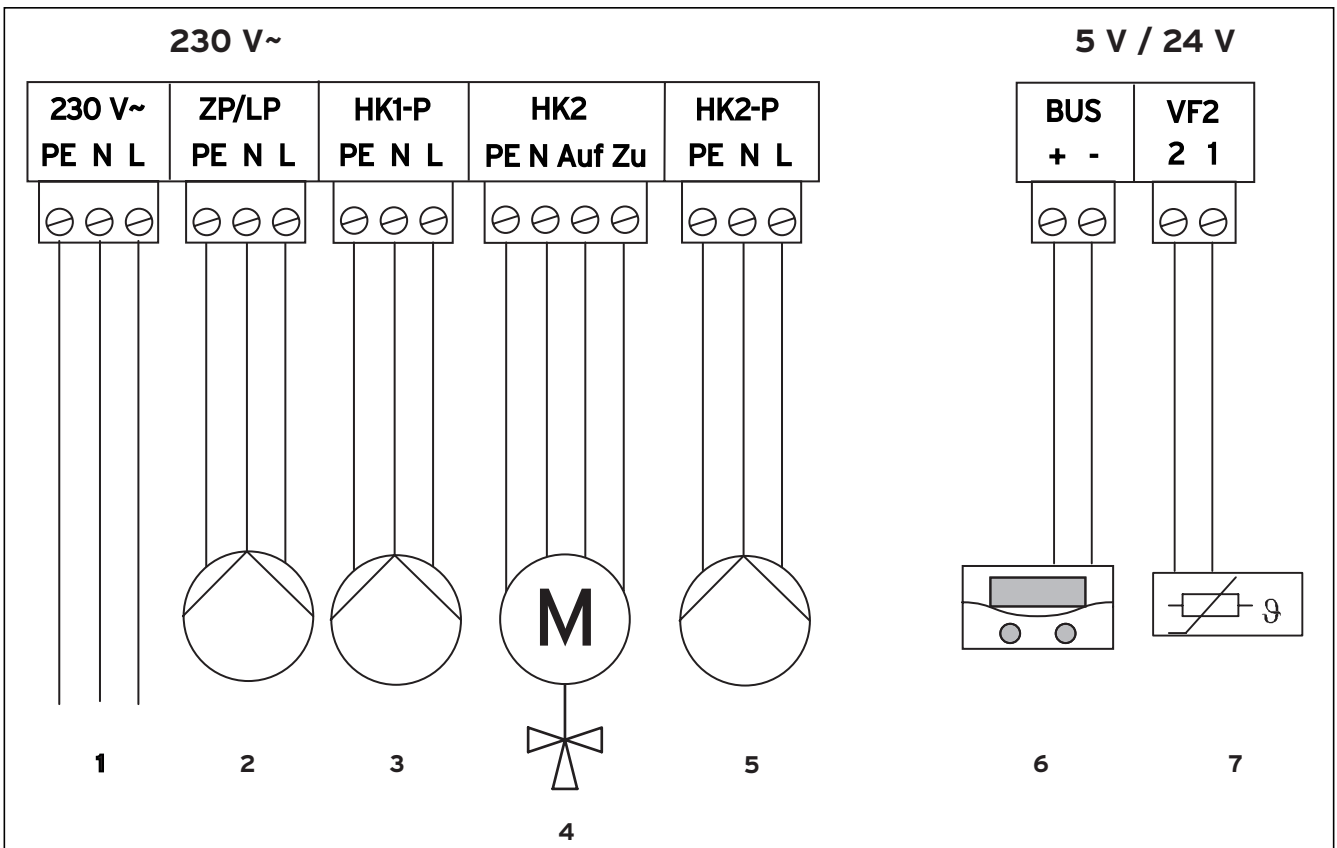

Fig. 6.2 Terminal allocation of the mixer module VR 61
- ⇒ Wire up the mixer module VR 61 as shown in Fig. 6.2.